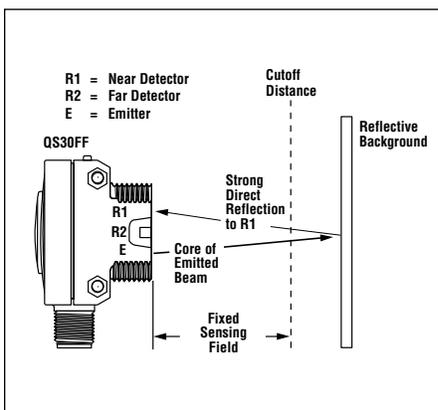
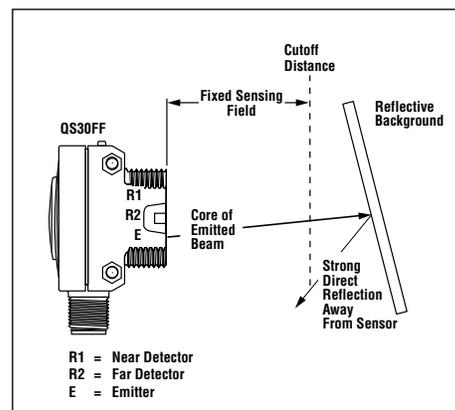

Figure 3. Reflective background – problem
Figure 4. Reflective background – solution
*Avoid mirror-like backgrounds that produce specular reflections.* False sensor response will occur if a background surface reflects the sensor's light more strongly to the near detector, or "sensing" detector (R1) than to the far detector, or "cutoff" detector (R2). The result is a false ON condition (Figure 3). Use of a diffusely-reflective (matte) background will cure this problem. Other possible solutions are to angle the sensor or angle the background (in any plane) so the background does not reflect light back to the sensor (see Figure 4). Position the background as far beyond the cutoff distance as possible.